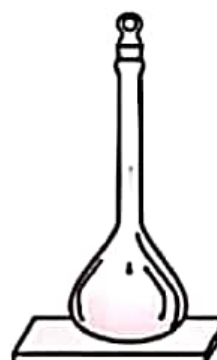

Fig. 11.17. Standard solution of oxalic acid.
9. Stopper the measuring flask and shake gently to make the solution uniform throughout. Label it as 0.1 M oxalic acid solution [Fig. 11.17].